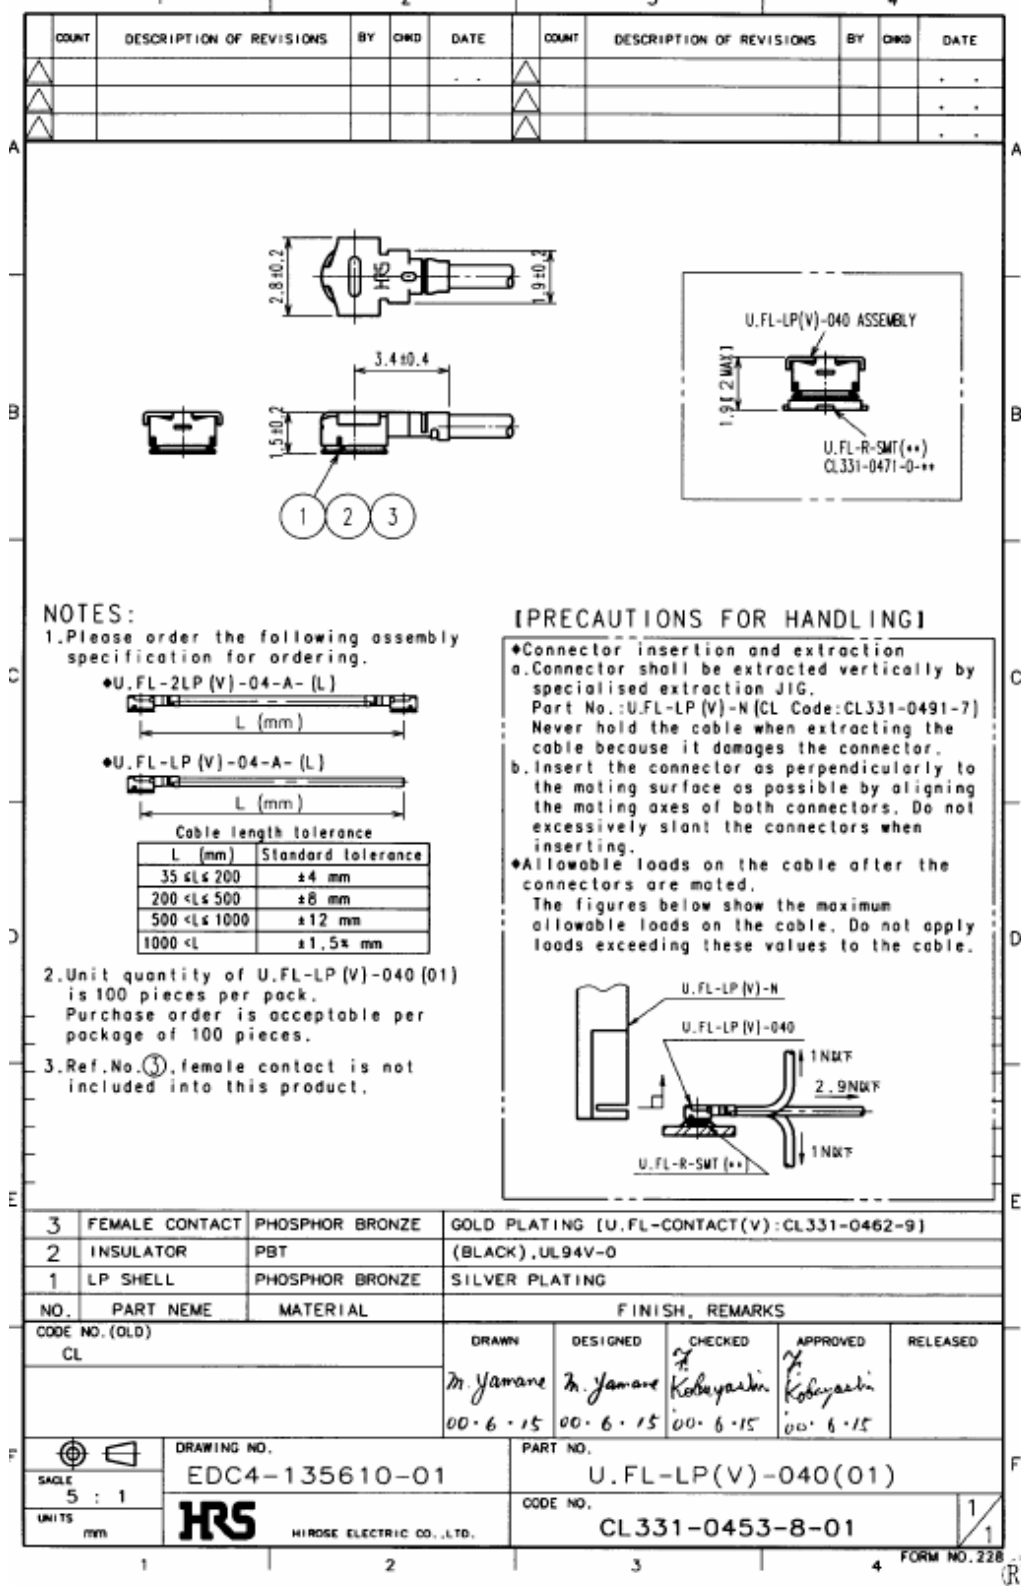

Figure 5: Specifications of U.FL-LP-(V)-040(01) plug
In addition to the connectors illustrated above, the U.FL-LP-(V)-040(01) version is offered as an extremely space saving solution. This plug is intended for use with extra fine cable (up to $\varnothing 0.81\text{mm}$) and minimizes the mating height to 2mm. See Figure 5 which shows the Hirose datasheet.